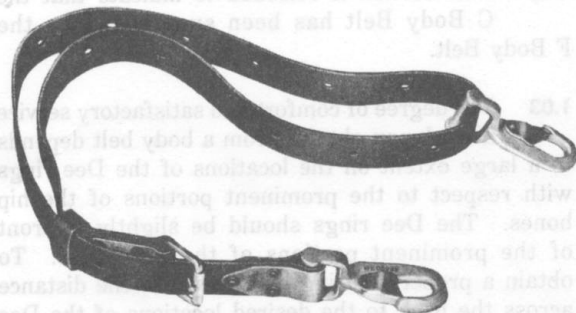

Fig. 4—D Safety Strap
2.06 The D Strap (Fig. 4) is available in one size only. It is adjustable in length in increments of 1-1/2" from 36" to 61-1/2".